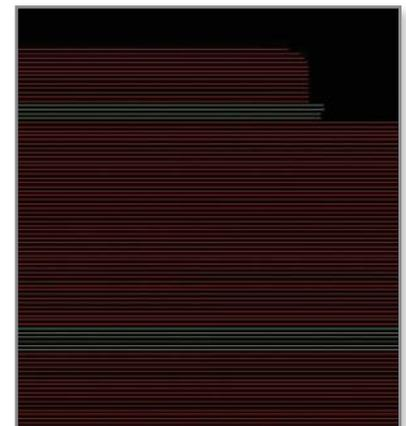

Figure 5: Support layers (white) between model layers (red).
**STEP 10:** Confirm that a support layer exists between model layers (Figure 5).